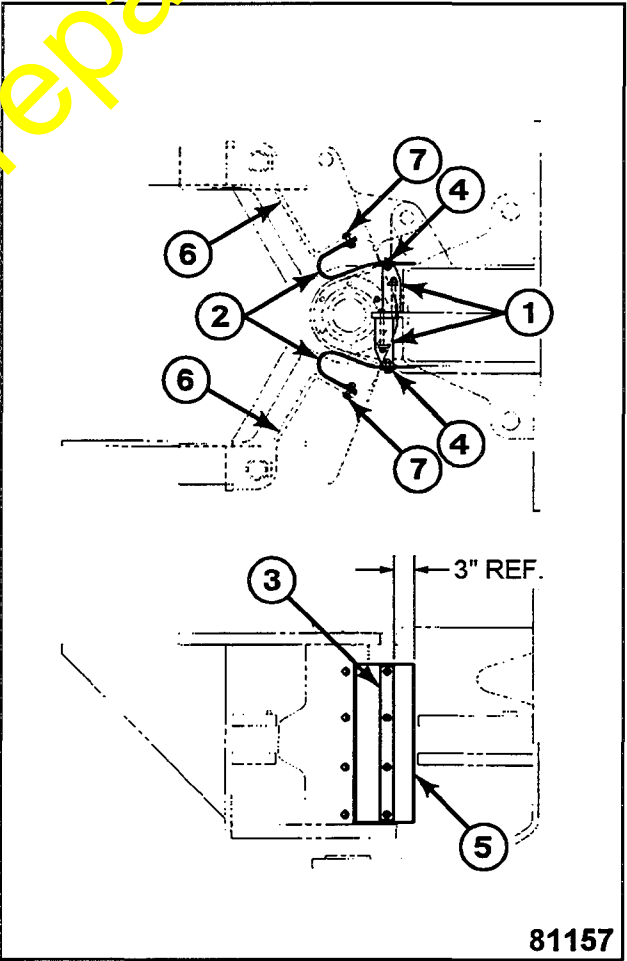

Figure 4
1. Drill holes in support angles of rear frame (6, Figure 4), per dimensions in Figure 1. If this hole pattern can not be obtained, drill upper and lower holes per dimensions given. Locate other two holes in accordance with step 5 of this procedure.
6. Install 1436579H1 foam barrier on right side of machine between frame and front shell. Align foam barriers flush with front surface of shell weldment. To install, compress foam barrier as completely as possible. Quickly remove paper from adhesive side and position in place, adhesive side up (Figure 4). Install air barrier foam on left side of machine as above with adhesive side down.